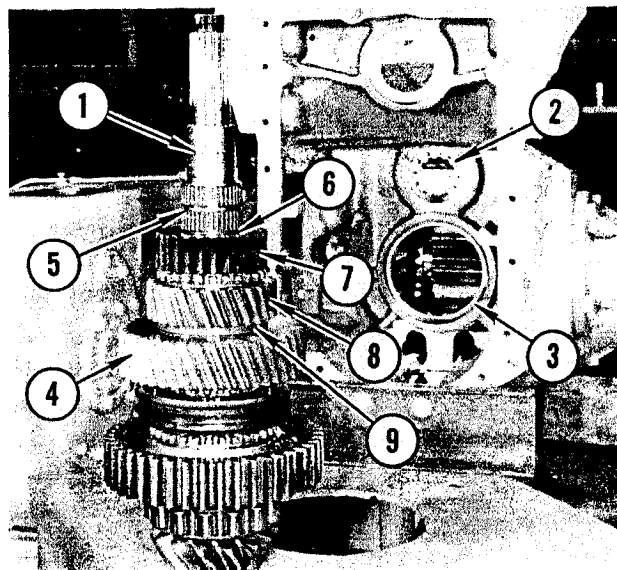

FIGURE 91. LOWER SHAFT ASSEMBLY
Refer to Figure 91. Move end of lower shaft up and down; at same time pull out until bearing is free of bore in housing. Remove lower shaft assembly (1) from housing. Remove roller bearing (2) from housing. Remove bearing outer race (3) from housing.